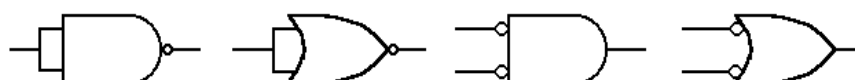

Figure 12 – Functions to be implemented.
(***) **Question 7.2.1 [4 Marks]** – Implement the circuits in **Figure 12** and complete their truth tables. Compare the results with functions in **Experiment 1**; what conclusions can you derive?
a) What logic function do the first two circuits (of Figure 12) represent?
b) The 3rd and 4th circuits in Figure 12 should have identical Truth Tables to two of the functions tested in Experiment 1. If so, write down the Boolean equation for each identical pair (for example, the 4th function in Figure 12 is written $x' + y'$). What important Theorem do the two equations illustrate?